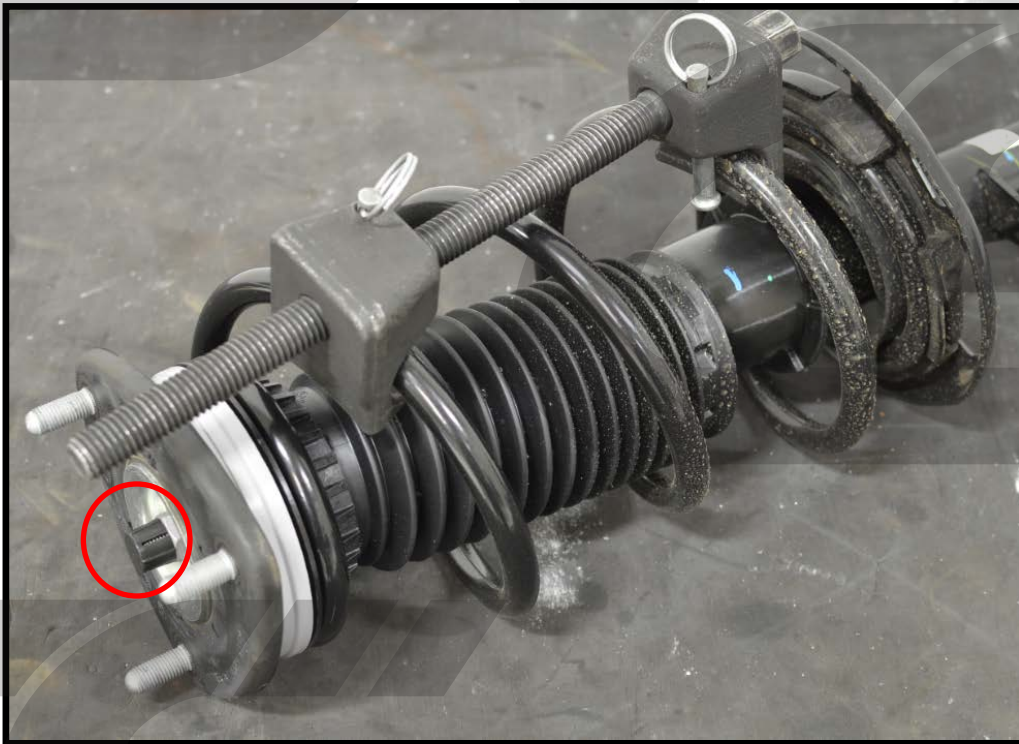

Figure 2a
- a) **Remove the 14mm nut holding the strut top hat.** Use the 6mm allen wrench to keep the shaft from rotating. **Red circle in Figure 2a.**